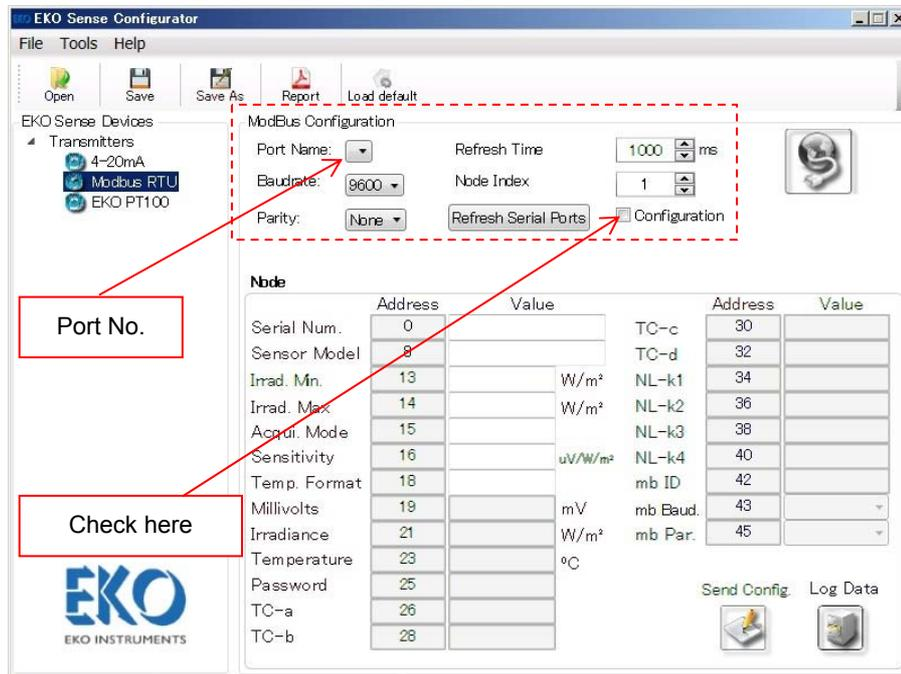

Figure 6-9. Configuration Window (Communication Setting)
3) Window shown on Figure 6-9 appears when “Modbus RTU” is selected.